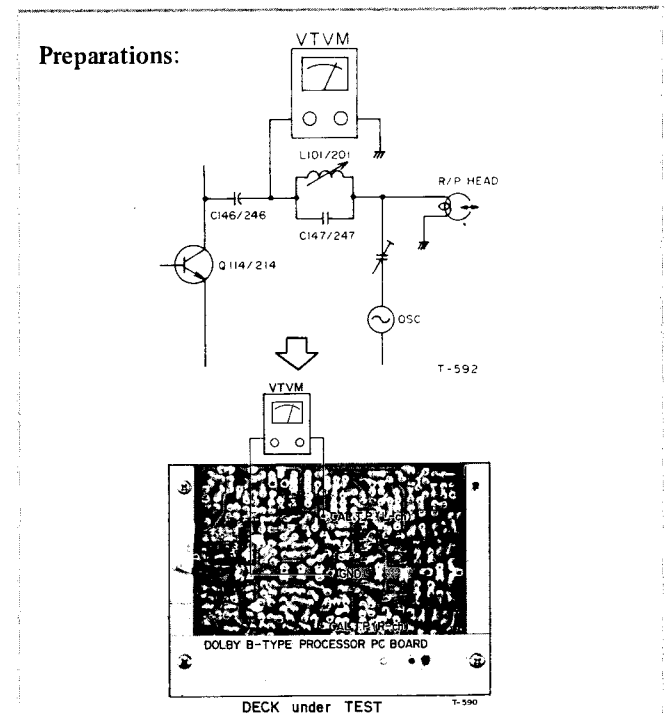

Fig. 6-12 Connection
4. Change the VTVM connections to the CAL test point and ground. See Fig. 6-12.